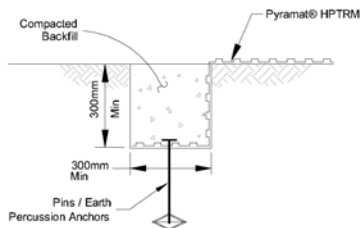

FIGURE 3: LONGITUDINAL EDGE TRENCH DETAIL
- Excavate longitudinal edge trenches 300mm wide x 300mm deep minimum along both sides of the installation to bury edges of mat (see Figure 3). The longitudinal edge trenches shall be located along the first and last installed rolls.
- Secure longitudinal edge trench with pinning devices on 300mm centers and with earth percussion anchors on 1.2m centers (see Figure 3).